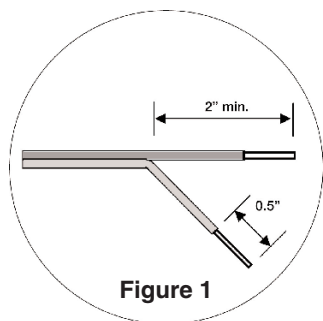

Figure 1
2. Strip 1/2" of insulation from the end of each conductor. (See Figure 1.)